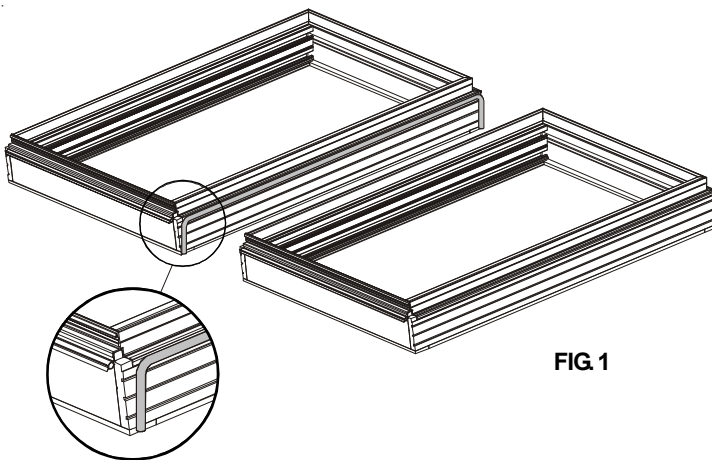

FIG 1
3. Apply a 3/8" bead of sealant to one of the jambs where the unit will be mulled. The bead must run the width and full length of the unit and be a maximum of only 1/4" away from the face of the unit. See Fig. 1.